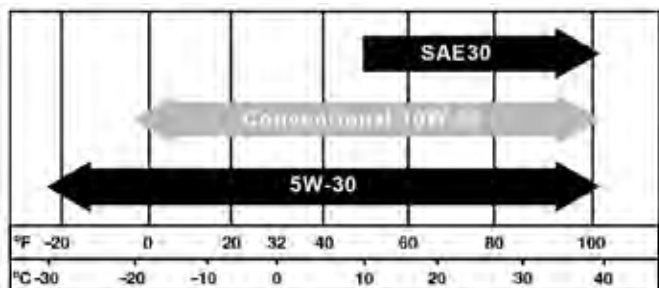

Figure 14 - Recommended Oil
1. Only use the engine oil specified in Figure 14.
6. Select the proper engine oil as specified in Figure 14.